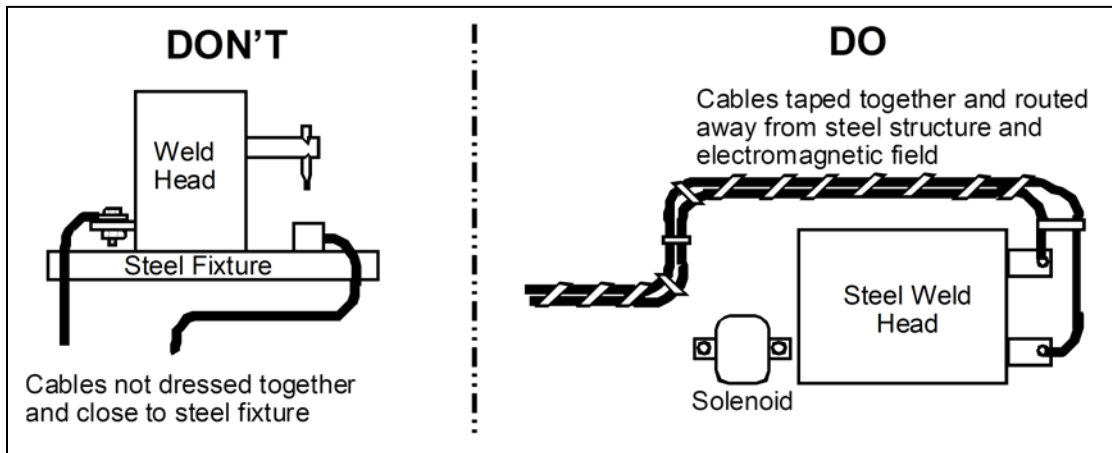

Figure 2-1. Cable Routing Examples
- Route cables so that they do not surround magnetic materials such as air solenoids, tooling, or steel weld heads (see figure 2-1).
- Tape cables together to minimize the inductive losses. A separation of weld cables surrounding an area of one square foot could result in losses of up to 65% (figure 2-1).